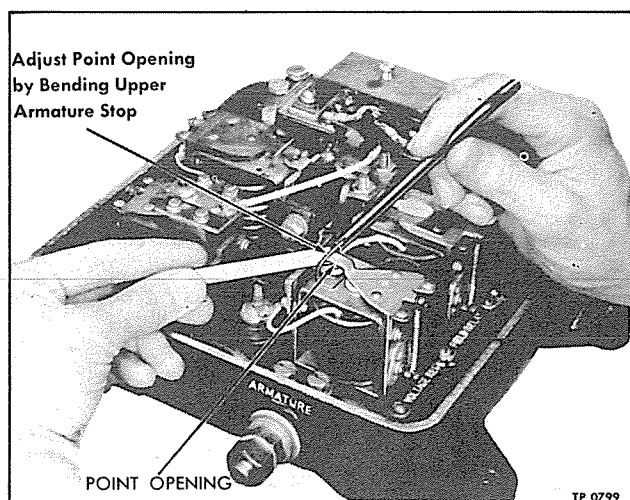

Figure 5—Voltage Regulator Point Opening Check and Adjustment
1. Check point opening as shown in figure 5. Opening should be same as listed under "Specifications" later in this section.
2. To adjust, bend armature stop (fig. 5) until proper point opening is obtained.